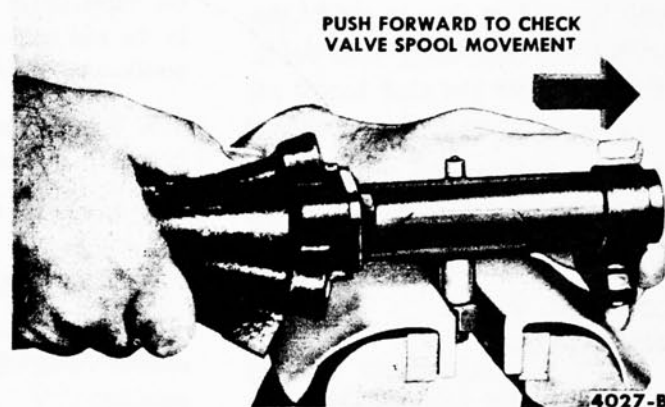

FIG. 17—Valve Spool Movement Inspection
17. Install the nut on the ball stud so that the valve can be positioned in a vise as shown in Fig. 17. Then push forward on the cap end of the valve to check the valve spool for free movement.